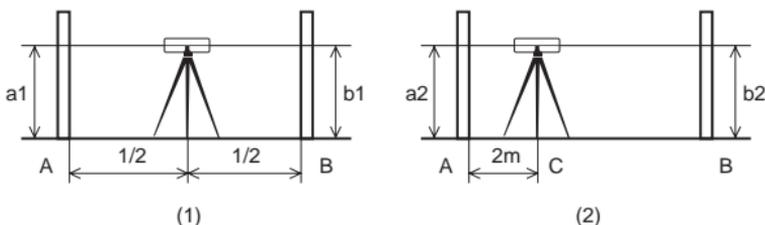

Fig. 5
- ① Set and level the instrument at a point midway between two points. Set leveling staff on point A, B. Align the staff by telescope and note the readings of  $a_1$ ,  $b_1$  (See Fig. 5(1)).
- ② Move the instrument to a position (point C) about  $2m$  from one of the points A or B. Level the instrument once again and note the readings of  $a_2$ ,  $b_2$  (See Fig. 5(2)). If  $a_1 - b_1$  is not equal to  $a_2 - b_2$ , adjustment is required.